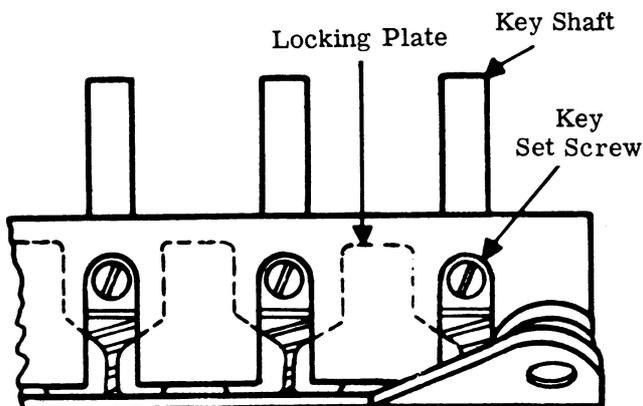

Figure 3. Key Assembly Interior Showing Parts Involved in Pick-Up-to-Signal Conversion
- (4) Remove the set screw (Fig. 3) from the key to be converted.
- (5) Turn the adapter on its side and allow the locking plate (Fig. 3) to slide out.
- (6) Rotate the key shaft (Fig. 3) one-half turn (180°) so that the threaded opening in the key shaft is aligned with the slot.
- (7) Replace the set screw in the key shaft.
- (8) Depress the key shaft. Depressing the key shaft should not cause an operated key to restore and should not lock itself.
- (9) Replace the push-button caps and retaining bracket.
- (10) Refer to Table 1 and change the spade-tipped leads as required for the modification being made.
- (11) Replace and screw down the housing cover.